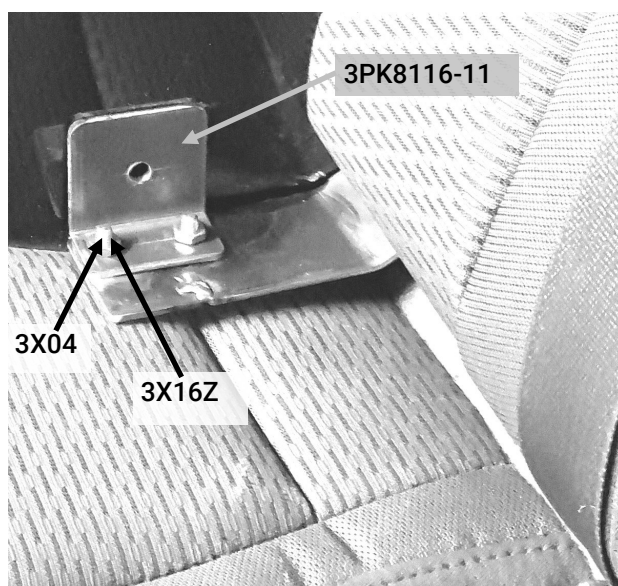

Fig. 7
- C. With seat returned and seatback up, fasten divider angle bracket [3PK8116-11] using (2) 1/4-20 x 5/8" machine screws [3X04] against seat and up through bracket and (2) 1/4-20 whiz nuts [3X16Z] (Figure 7)